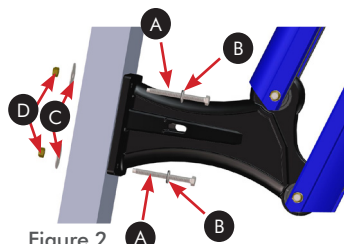

Figure 2
4. With a 1/2" wrench and 1/2" socket, fasten the stern bracket to the transom using the (4) 5/16" x 3.5" all-thread transom mount bolts **A**, (4) 5/16" neo-bond washers **B**, (4) 5/16" fender washers **C**, and (4) 5/16" tall brass nuts **D**. The rubber backed neo-bond washers **B** will protect the powder coated surface of the stern bracket and they must not be over tightened. **FIG. 2** Neo-bond washers **B** are not needed for 10' Blade.